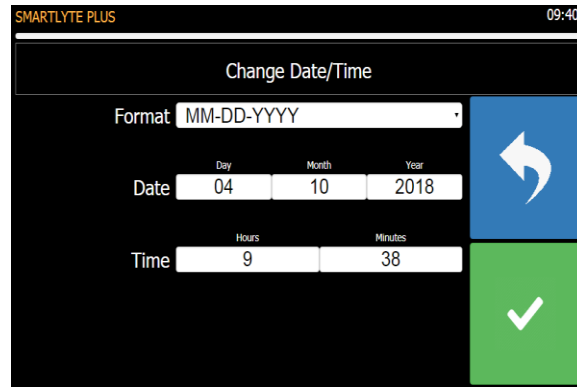

Figure 1-34 Change Date Time Screen
- Press [OPERATOR SETTINGS] on main operations menu Figure 1-4, [USER SETTINGS] on Operator Settings Menu, Figure 1-34, and then [ADD USER].
- Press to return to Operator Settings Menu. (Figure1-34)